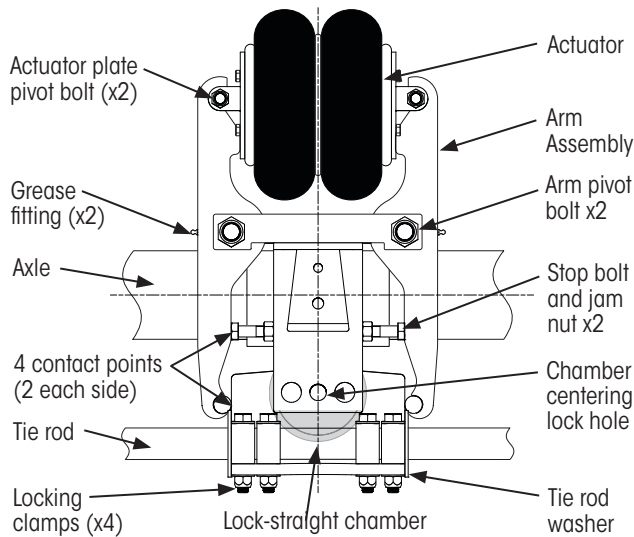

Figure 4: Self-steer axle lock-straight assembly (Bottom view)
assembly. See Figure 4 on page 8. Optionally, a lift control can be added to also lift the axle.
| N/A | Lock-straight contact points (Figure 4 on page 8)- These four points must be contacting, metal-to-metal, when the lock-straight system is activated. Refer to LOCK-STRAIGHT CENTER ADJUSTMENT on page 8. |
During axle alignment or other applicable adjustment of the self-steer axle, the tie rod and wheels (Figure 4) must be locked in the center position.
6. **Ensure** all four contact points are made, as shown in Figure 4. If not contacting at all four contact points:
- B. **Adjust** centering bolts (Figure 4) until all four contact points are made.
The lock-straight system includes two opposing arms (Figure 4) with bushings located at the pivot bolts. Wear can occur at the four contact and pivot points. If worn or damaged, both arm assemblies should be replaced.